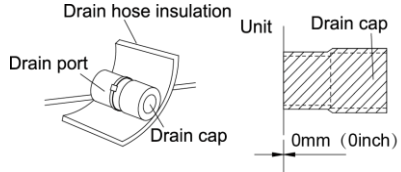

Fig. 4.27
- (2). The unused drain port also should be insulated properly.(Fig. 4.27)